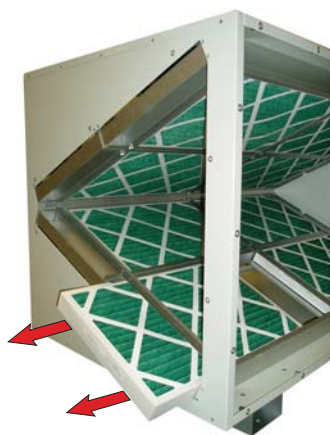

Figure 6.7
3. Pull out the filters from the filter box, see *Figure 6.7*.